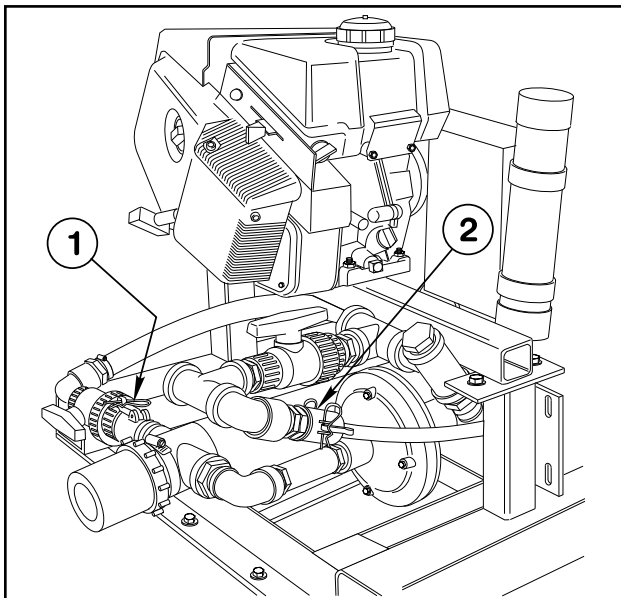

FIG. 1
Remove the Sprayer Skid from it's shipping skid. For ease of handling, while connecting the Hoses to the Tank, disconnect the 1" x 53" Suction Hose and the 1/2" x 45" Agitator Hose at their respective Quick Couplers. See FIG. 1.
8. Re-connect the Suction and Agitator Hoses at their respective Quick Couplers. See FIG. 1.